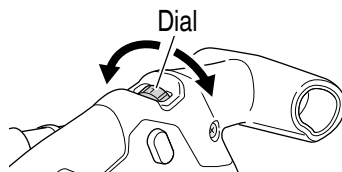

Fig. 11
- Set the mode using the dial according to work application (**Fig. 11**)